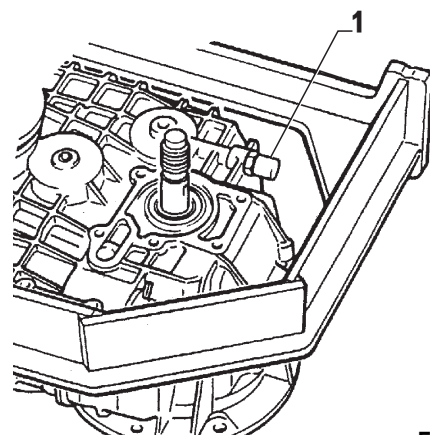

FIG. 4-4
Due to the taper thread, the breather (item 1, Fig. 4-4) do need not to be coated with Loctite or equipped with a sealing washer.